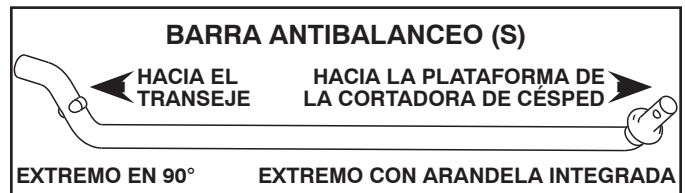

Fig. 9
## 5. SI LA TIENE, INSTALE LA BARRA ANTIBALANCEO (S) (Vea Fig. 9 - 11)